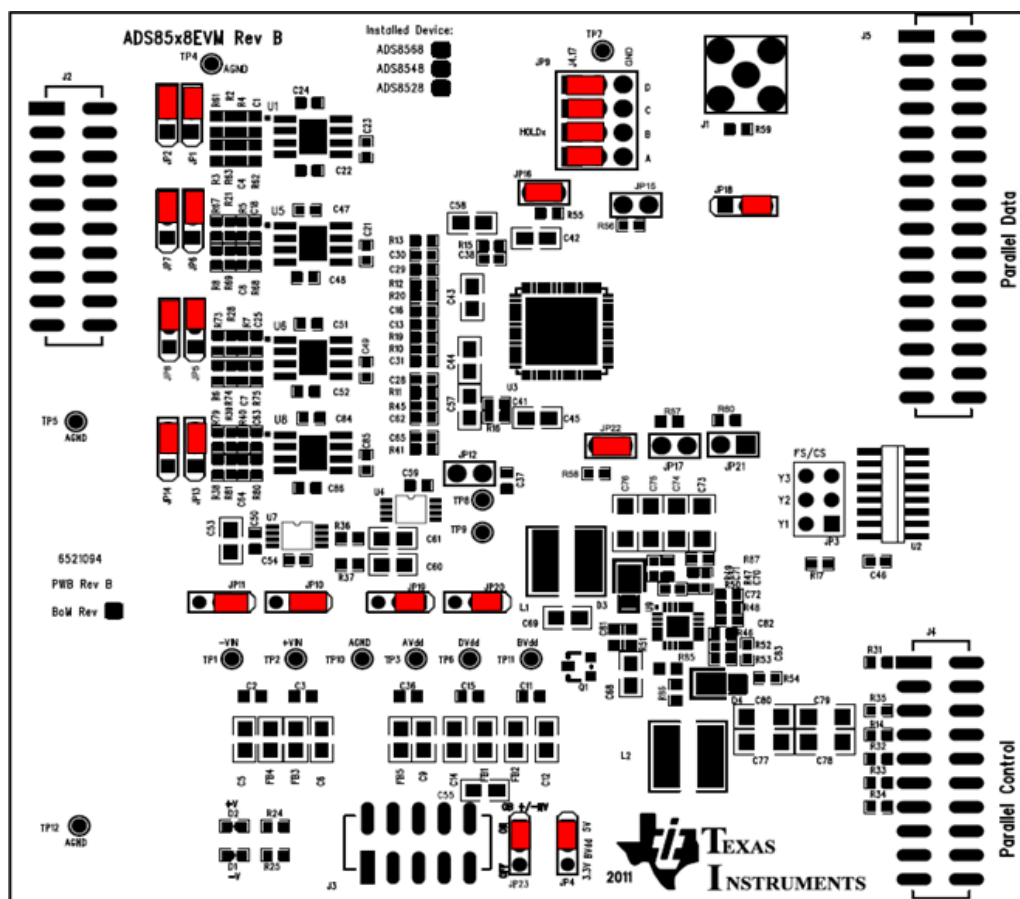

Figure 2. ADS8568EVM Default Jumper Settings
A silkscreen detailing the default jumper settings is shown in Figure 2. Table 2 explains the configuration for these jumpers.
1. Verify the jumpers on the ADS8568EVM are as shown in Figure 2 (note that these settings are the factory-configured settings for the EVM).